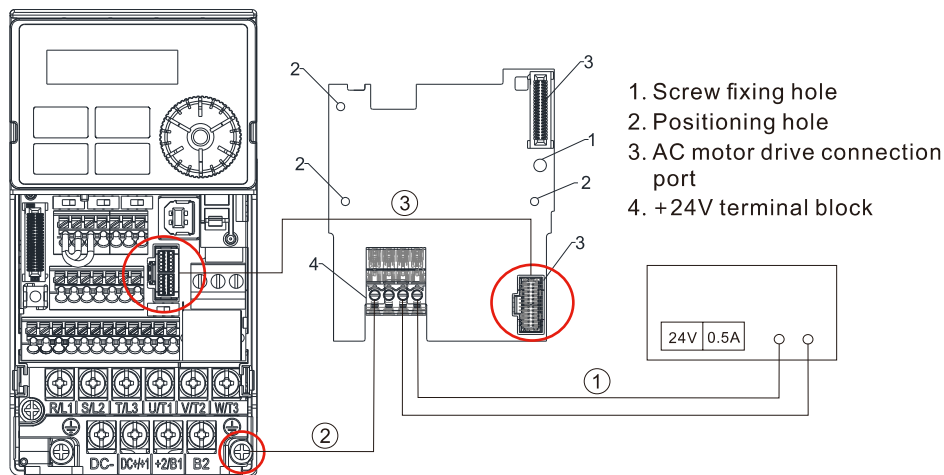

Figure 8-72
Operating procedures (refer to the mark ① ② ③ in the Figure 8-72)
- ① Choose the power supply or the host to connect the positive and negative electrodes to +24V power card.
- ② Connect the ground terminal of +24V power card and the ground terminal of the drive.
- ③ Connect one side of the cable to the connection port of the drive and another side to the +24V power card's.